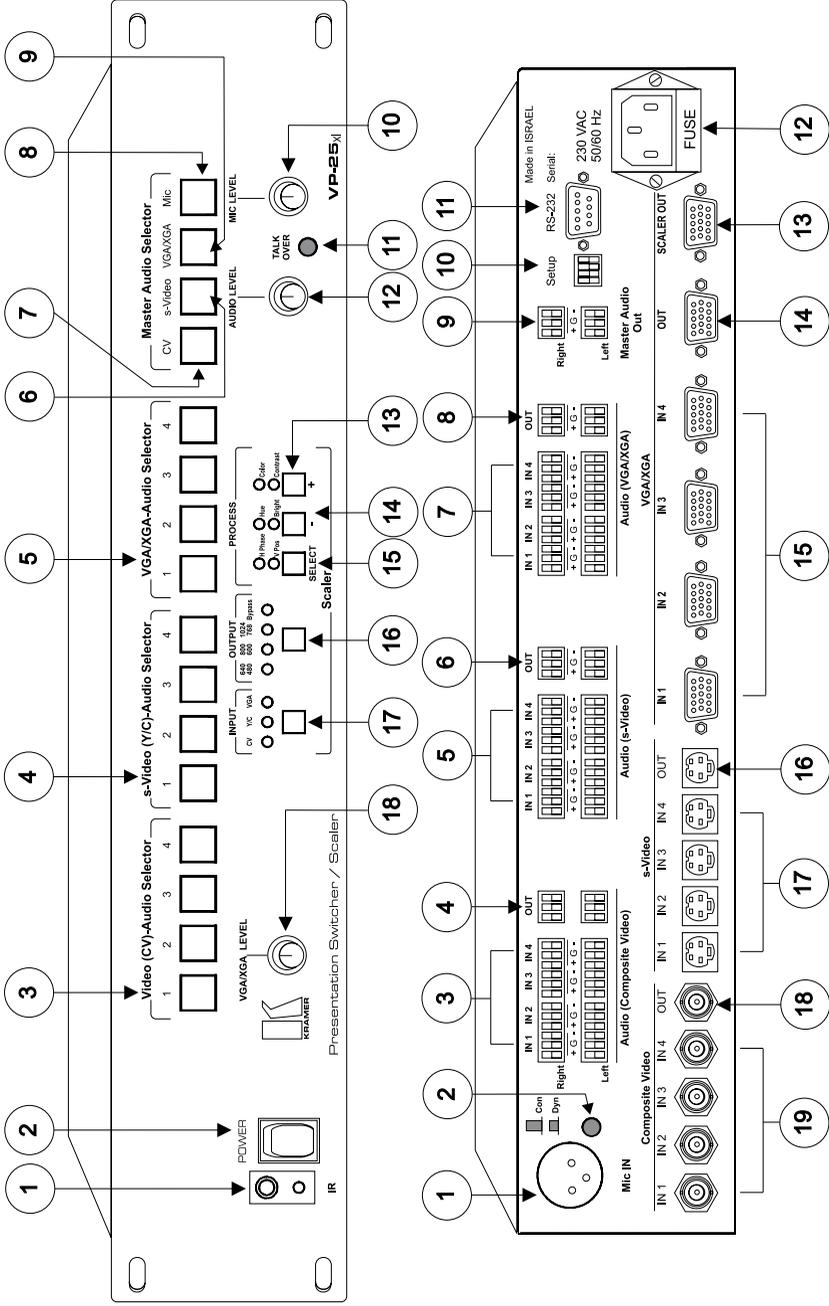

Figure 1: VP-25x1 4x1 Presentation Switcher / Scaler
Figure 1 illustrates the front and rear panels of the **VP-25xl**. Tables 1 and 2 define the front and rear panels of the **VP-25xl**, respectively.
3 Use the Con / Dyn switch (refer to the rear panel, item 2 in Figure 1) to select a dynamic microphone or a condenser